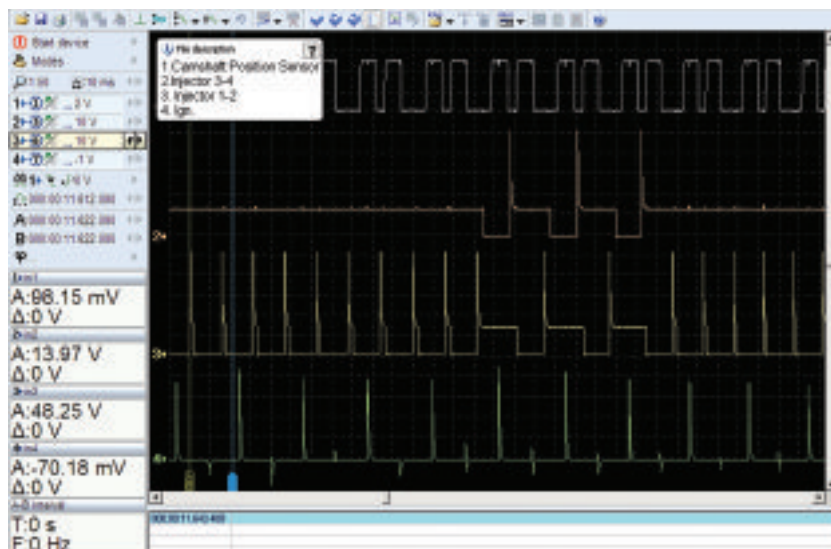

Figure 4: Waveforms with engine off idle.
**Figure 4** shows what happens when the throttle is opened so the engine is no longer at idle speed. Injectors 3-4 will only occasionally operate, most of the time they are non-functioning. Injectors 1-2 on the other hand, are open most of the time and only occasionally closed.